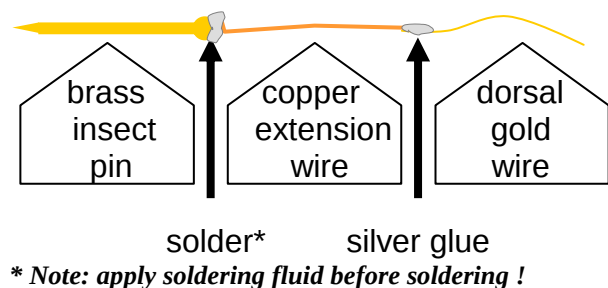

Fig. 8. Complete insect electrode
1. Take pieces of copper extension wire ($\varnothing$ 0.2mm) of about 2 cm long and solder one to each brass insect pin (Fig. 8). Use core wires from a spare piece of a cord, for example (some are supplied). Only use uncoated wires from ordinary 110/220V leads!